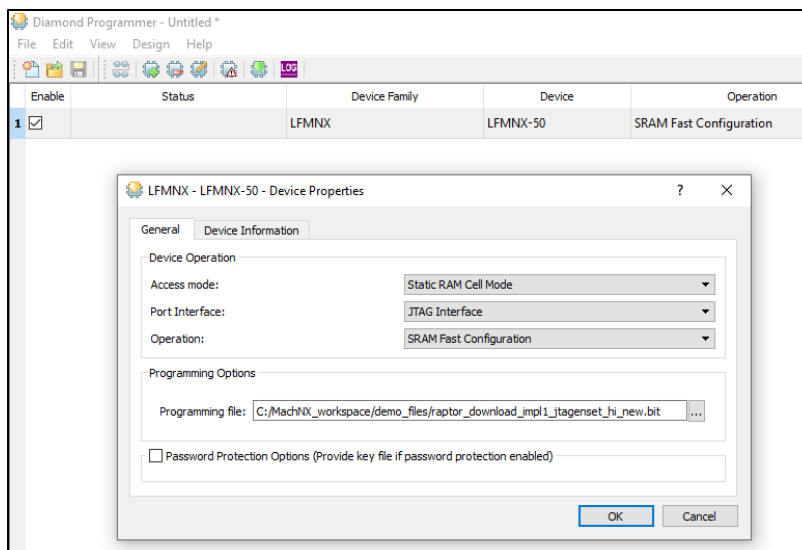

Figure 6.5. Programming Recovery File
6. Double-click on **Operation** to open the **Device Properties** dialog box, as shown in Figure 6.5.